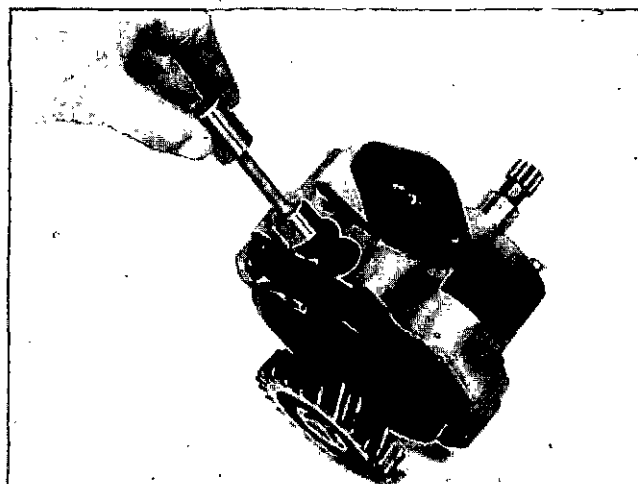

Fig. 7-8. Check The Movement Of The Plunger In The Bore.
6. Remove the pressure regulator retainer, spring and plunger. Make sure the plunger can move freely in the bore, Fig. 7-8.